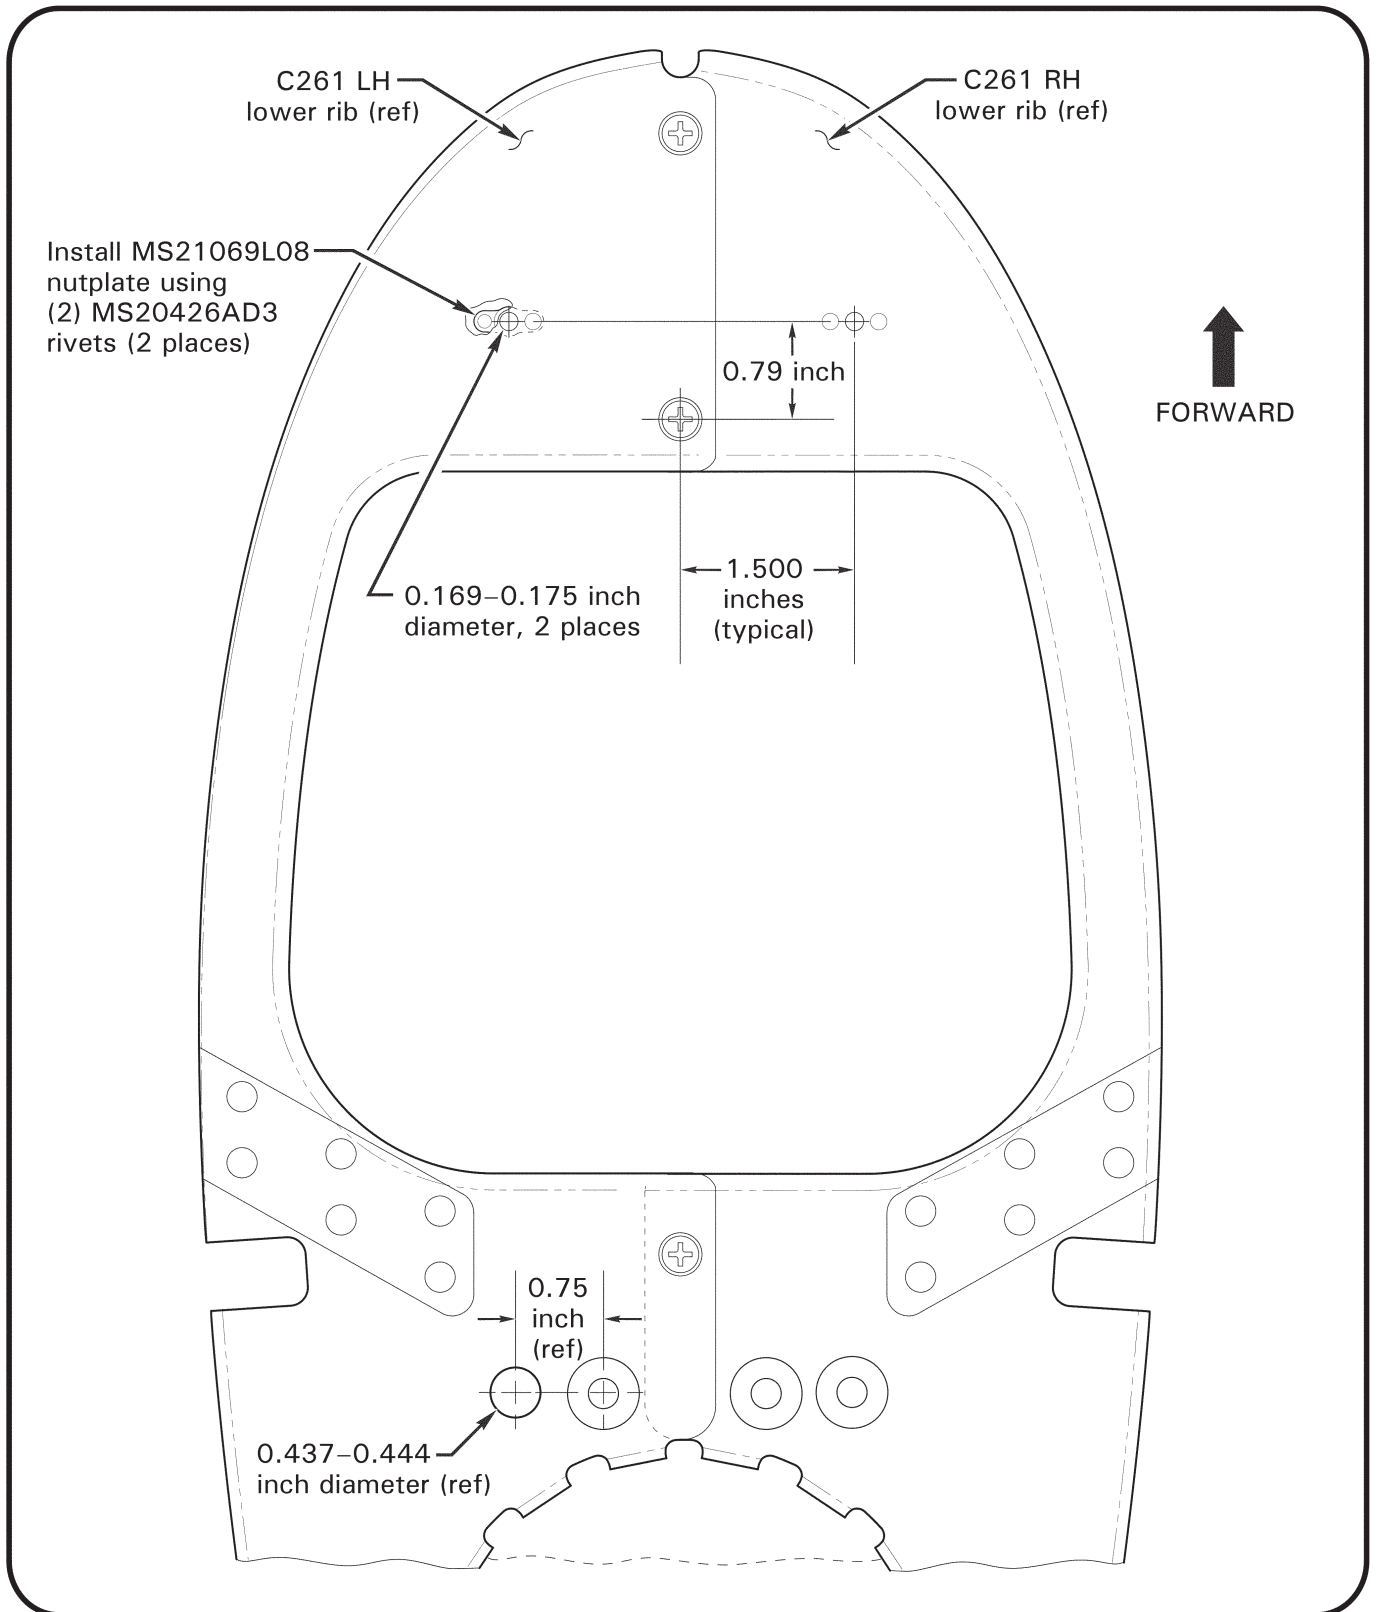

FIGURE 3 Installing nutplates in mast fairing ribs
10. Refer to Figure 3. Mask area beneath forward portion of lower ribs. Locate (2) 0.170 inch diameter holes, one in each rib. If holes are not present, locate & drill 0.169–0.175 inch diameter holes as shown, using drill fitted with drill stop.
11. Using MS21069L08 nutplate as template (or appropriately-sized nutplate jig) and drill fitted with drill stop, drill (2) 0.097–0.102 inch diameter rivet holes at each 0.170 inch diameter hole in lower ribs. Deburr holes and create 0.180 inch diameter, 100° countersink. Install nutplates as shown in Figure 3, using (4) MS20426AD3-4 rivets.
- 16. Refer to Images 2 & 3, and Figure 3. Route wires (-708) & (-709) thru MS35489-6 grommet, then thru open hole in C261 LH lower rib. Install grommet in rib. Continue routing wires down & aft, adjacent to mast tube, creating stand-offs as shown in Image 3.